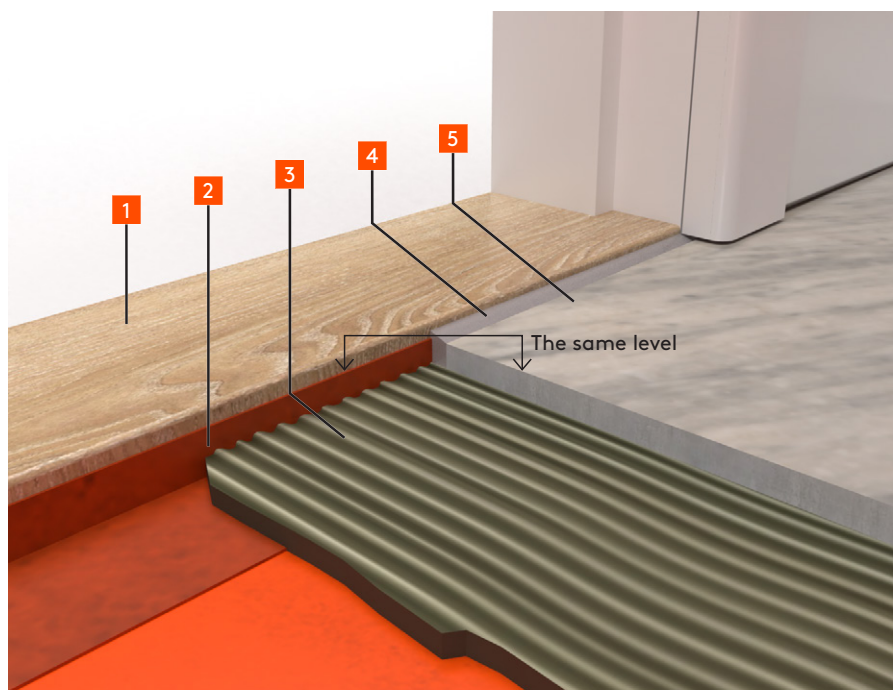

FIGURE 13. Turn-up against threshold
4. Sealing against the door's threshold, see Figure 13.
Thresholds or hidden thresholds shall be sealed by folding up the watertight membrane and associated sealing against the threshold to at least the level of the finished floor, see Figure 13.